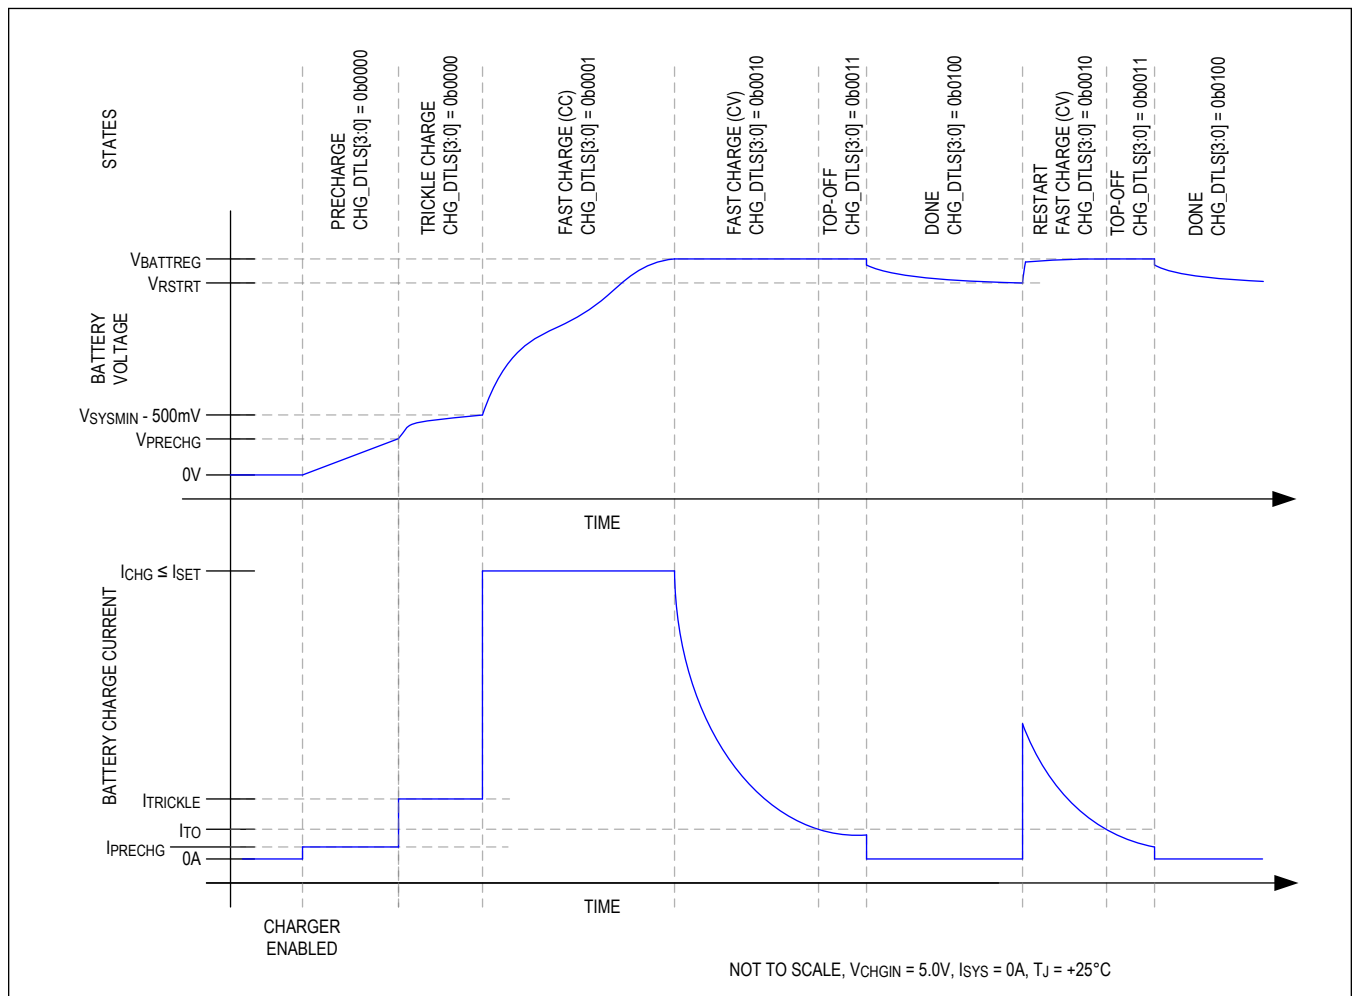
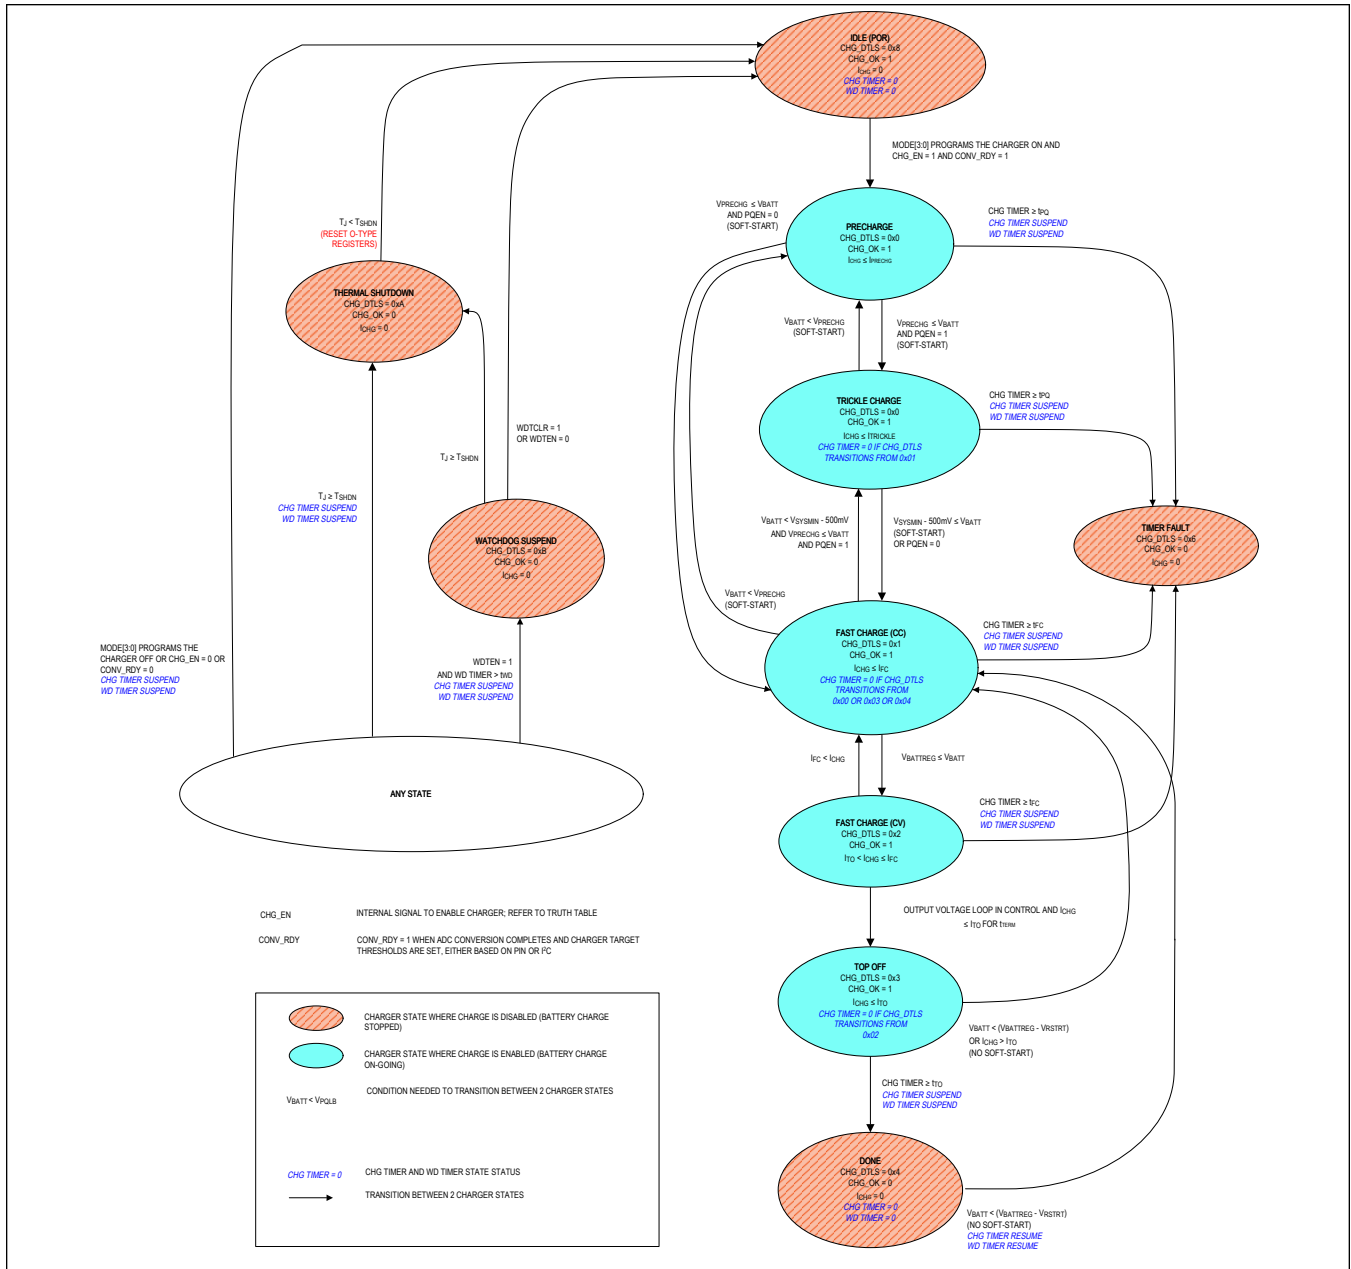

Figure 1. Li Battery Charge Profile
Figure 2. Charger State Diagram
The MAX77960/MAX77961 utilize several charging states to safely and quickly charge batteries as shown in Figure 1 and Figure 2. Figure 1 shows an exaggerated view of a Li+/Li-Poly battery progressing through the following charge states when there is no system load and the die and battery are close to room temperature: Prequalification → Fast-charge → Top-off → Done.
From any state shown in Figure 2 except thermal shutdown, the no input power or charger disabled state is entered whenever the charger is programmed to be off or the charger input CHGIN is invalid. After being in this state for t_{SCIDG} , CHG_DTLS is set to 0x08 and CHG_OK is set to 1. A CHG_I interrupt is generated if CHG_OK was 0 previously.
As shown in Figure 2, the charger enters the precharge state when the battery voltage is less than V_{PRECHG} . After being in this state for t_{SCIDG} , a CHG_I interrupt is generated if CHG_OK was 0 previously, CHG_OK is set to 1 and CHG_DTLS is set to 0x00. In the precharge state, charge current into the battery is I_{PRECHG} .
As shown in Figure 2, the charger state machine is in trickle charge state when $V_{PRECHG} < V_{BATT} < V_{SYSMIN} - 500mV$. After being in this state for t_{SCIDG} , a CHG_I interrupt is generated if CHG_OK was 0 previously, CHG_OK is set to 1 and CHG_DTLS = 0x00.
As shown in Figure 2, the charger enters the fast-charge constant current (CC) state when $V_{SYSMIN} - 500mV$ (typ) $< V_{BATT} < V_{BATTREG}$. After being in the fast-charge CC state for t_{SCIDG} , a CHG_I interrupt is generated if CHG_OK was 0 previously, CHG_OK is set to 1 and CHG_DTLS = 0x01.
As shown in Figure 2, the charger enters the fast-charge constant voltage (CV) state when the battery voltage rises to $V_{BATTREG}$ from the fast-charge CC state. After being in the fast-charge CV state for t_{SCIDG} , a CHG_I interrupt is generated if CHG_OK was 0 previously, CHG_OK is set to 1 and CHG_DTLS = 0x02.
In the fast-charge CV state, the battery charger maintains $V_{BATTREG}$ across the battery and the charge current is less than or equal to I_{FC} . As shown in Figure 1, charger current decreases exponentially in this state as the battery becomes fully charged.
As shown in Figure 2, the top-off state can only be entered from the fast-charge CV state when the charger current decreases below I_{TO} for t_{TERM} . After being in the top-off state for t_{SCIDG} , a CHG_I interrupt is generated if CHG_OK was 0 previously, CHG_OK is set to 1, and CHG_DTLS = 0x03. In the top-off state the battery charger maintains $V_{BATTREG}$ across the battery and typically the charge current is less than or equal to I_{TO} .
As shown in Figure 2, the battery charger enters its done state after the charger has been in the top-off state for t_{TO} . After being in this state for t_{SCIDG} , a CHG_I interrupt is generated only if CHG_OK was 0 previously, CHG_OK is set to 0 and CHG_DTLS = 0x04.
The battery charger provides both a charge timer and a watchdog timer to ensure safe charging. As shown in Figure 2, the charge timer prevents the battery from charging indefinitely. The time that the charger is allowed to remain in its prequalification states is t_{PQ} . The time that the charger is allowed to remain in the fast-charge CC and CV states is t_{FC} , which is programmable with FCHGTIME. Finally the time that the charger is in the top-off state is t_{TO} which is programmable with TO_TIME. Upon entering the timer fault state a CHG_I interrupt is generated without a delay, CHG_OK is cleared and CHG_DTLS = 0x06.
The charger is off in the timer fault state. The charger can exit the timer fault state when the charger is programmed to be off then on again through the MODE bits or when DISQBAT pin is toggled from L-H-L. Alternatively, the charger input can be removed and reinserted to exit the timer fault state (see the ANY STATE bubble in Figure 2).
The battery charger provides both a charge timer and a watchdog timer to ensure safe charging. As shown in Figure 2, the watchdog timer protects the battery from charging indefinitely in the event that the host hangs or otherwise cannot communicate correctly. The watchdog timer is disabled by default with WDTEN = 0. Enable the feature by setting WDTEN = 1. With watchdog timer enabled, the host controller must reset the watchdog timer within the timer period (t_{WDT}) in order for the charger to operate properly. Reset the watchdog timer by programming WDTCLR = 0x01.
As shown in Figure 2, the state machine enters the thermal shutdown state when the junction temperature (T_J) exceeds the device's thermal shutdown threshold (T_{SHDN}). When T_J is close to T_{SHDN} , the charger would have already folded back the input current to 0A, (see the Thermal Foldback section for more details), so the charger and the DC-DC are effectively off. Upon entering this state, CHG_I interrupt is generated if CHG_OK was 1 previously, CHG_OK is cleared, and CHG_DTLS = 0x0A.